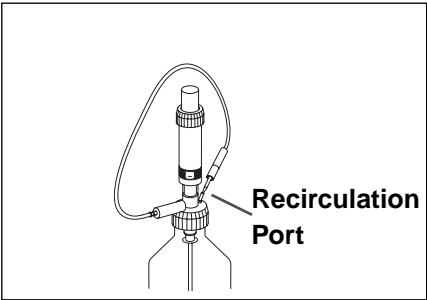

Figure 5.11
4. For non-OPD dispensing passes, prime the dispenser by pressing the tip of outlet tube into dispenser recirculation port. Depress and release plunger button, ensuring that all lines are free of air bubbles prior to dispensing reagents. Remove the outlet tube from recirculation port. The dispenser is primed and ready for installation on the PPC (Figure 5.11).